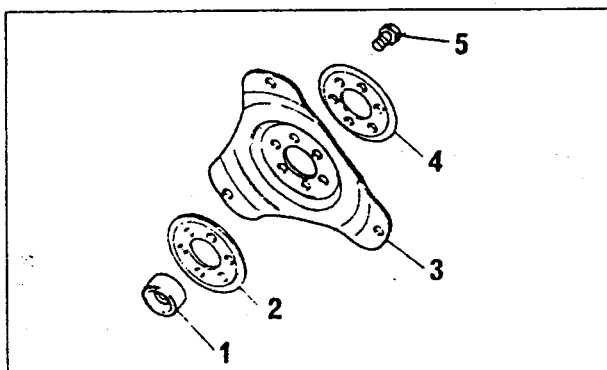

Fig. 1.49. — The component parts of the driven plate for an automatic transmission model.
- Clean the crankshaft flange with a clean rag and fit the flywheel. Tighten the flywheel bolts to 135 kgm (98 ft.lb.). On models with automatic transmission, fit the drive plate (Fig. 1.49). The bolts are tightened to the torque given above. Note that the plate (2) may not be fitted.
Fig. 1.49 shows the component parts of the drive plate. No pilot bearing is fitted into the end of the crankshaft if an automatic transmission is used with the engine, but a bush is fitted which can be removed with a threaded tab. Cut a thread of suitable size into the bush, screw in a bolt and withdraw the bush with a pair of pliers or similar.